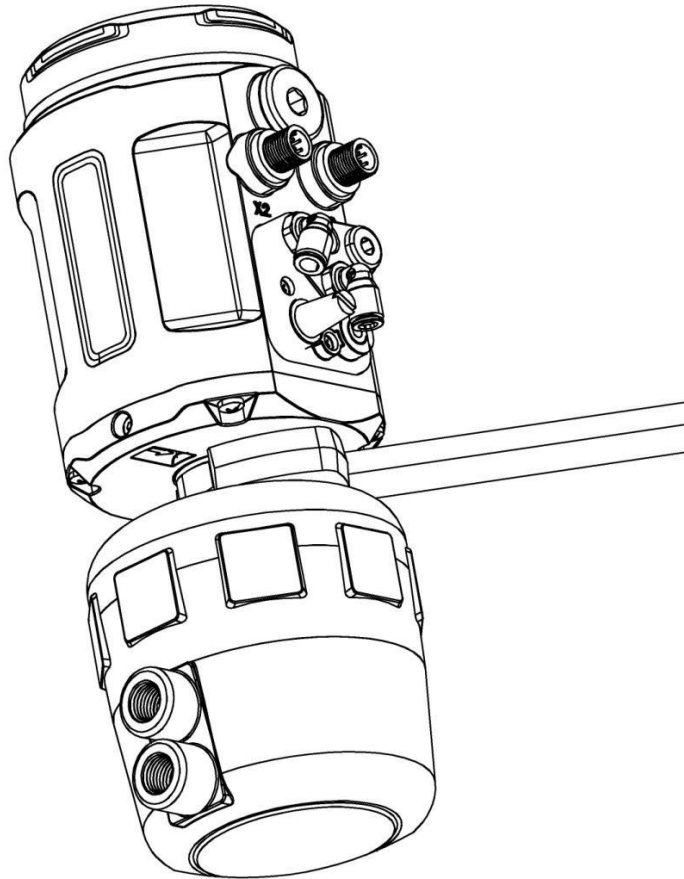

Figure 7. Actuator Combination
4. Make the actuator connection of the positioner entering into the thread connection of the actuator by **NO.32 wrench**. As shown in Figure 7.
If you need to adjust the interface angle, relax the hexagon screw in place A (As shown in Figure 7) first. Then adjust the angle clockwise or counter-clockwise in 180° range. After adjusting the angle, lock the angle by the hexagon screw.